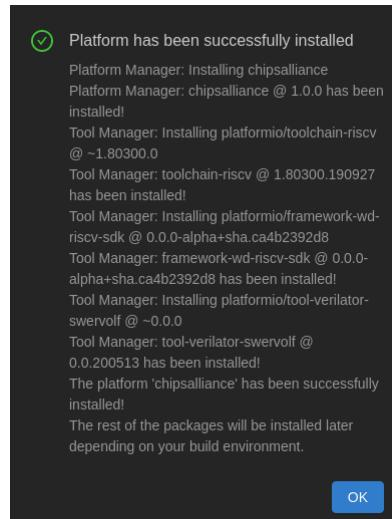

Figure 102. Successful installation of CHIPS Alliance Platform
3. Once installation completes, a summary of the tools that have been installed is shown, as in Figure 102. Click **OK** to close that window.